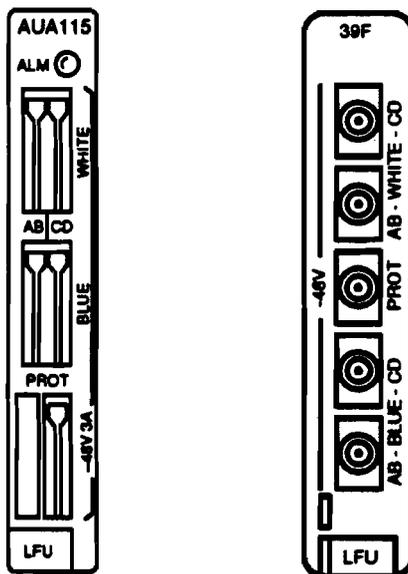

Figure 1 — AUA115 and 39F Line Fuse Unit
1. Get one AUA115 or 39F LFU (Figure 1) and inspect for possible damage.